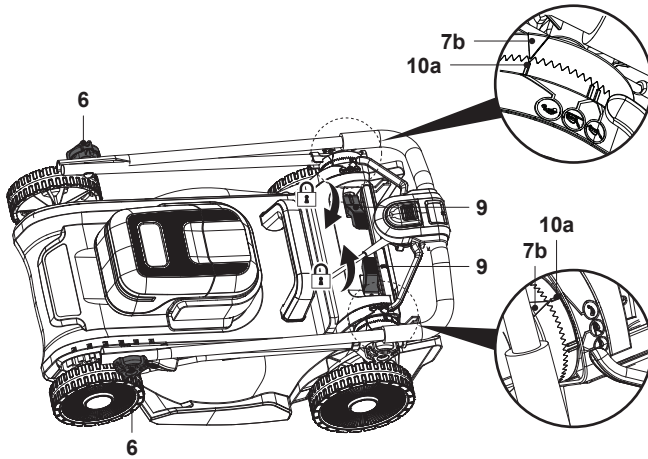

Fig. 24
- To save space, you can also fold the upper handle, secure the connections (6, 9) and ensure that the indicating triangle (7b) is aligned with parking indicator (10a) to avoid scattering (Fig. 24).